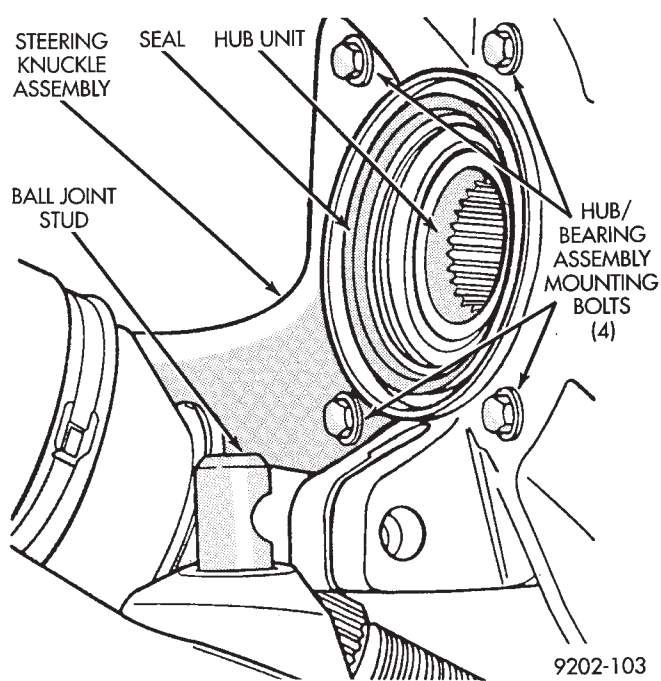

Fig. 9 Separate Ball Joint Stud from Steering Knuckle
(9) Separate the steering knuckle assembly from the ball joint stud. Pull knuckle assembly out and away from driveshaft (Fig. 9).
(10) Remove the four hub and bearing assembly mounting bolts from rear of steering knuckle (Fig. 9).
(1) Install new front hub and bearing assembly into the steering knuckle. Tighten the hub and bearing assembly to steering knuckle attaching bolts (Fig. 9), in a criss-cross pattern to 65 N•m (45 ft. lbs.) torque.